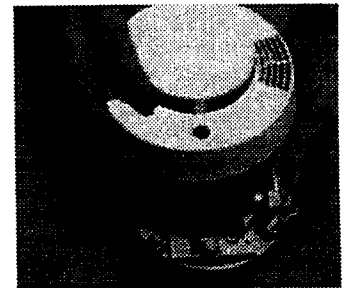

Figure 3. Cover alignment for replacing
1. Line up the test button hole on the cover with the test button on the detector as shown in Figure 3.